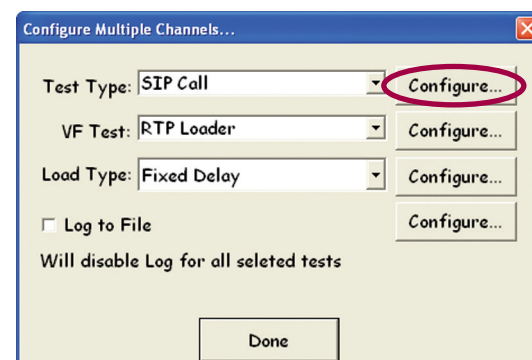
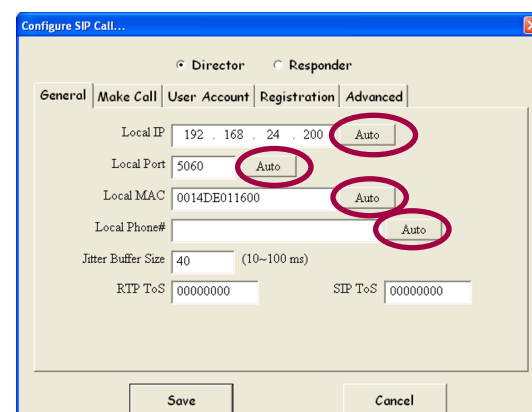
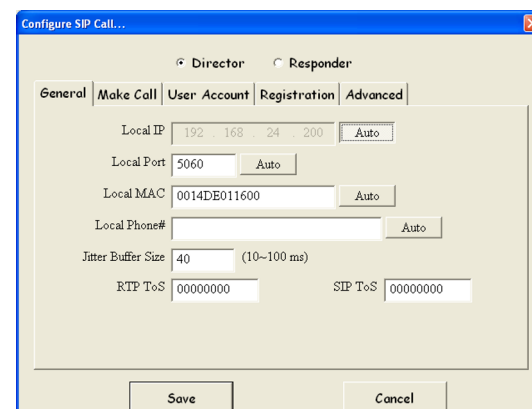
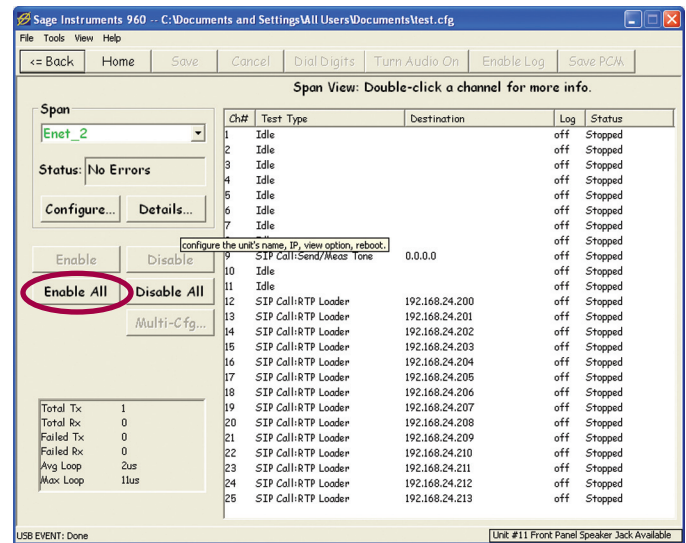

Figure 3.8.7 Multi Channel Config.
Figure 3.8.8 SIP Multi Channel Setup
Figure 3.8.9 SIP Multi Channel Setup
Figure 3.8.10 SIP Multi Channel Tests
3.8.7. Clicking on the **Configure** button circled in Figure 3.8.7 will launch the SIP Call configuration dialog box shown in Figure 3.8.8. Notice that the circled Auto buttons in Figure 3.8.8 are enabled because multiple channels are being configured. In figure 3.8.9, the Auto Fill button for the Destination IP address has been clicked. This will cause the destination IP address to increment for each channel. Any valid value can be entered in the appropriate text boxes, when the Auto Fill button is clicked, the auto increment range will start with the number entered and increment for the range of channels selected. Figure 3.8.10 shows the resulting Span View window with channels 12 through 25 configured as SIP Directors running the RTP loader test. Notice that the destination IP addresses start at 192.168.24.200 and end at 192.168.24.213.
Once the SIP call is configured, click on the **Save** button at the bottom of the configure SIP dialog box shown in Figure 3.8.9.
To start Multi Channel tests click on the circled **Enable All** button in the Span View window in Figure 3.8.10 to start all of the tests. Alternatively, in the Span View window, highlight a range of channels and click on the **Enable** button located directly above the Enable All button.